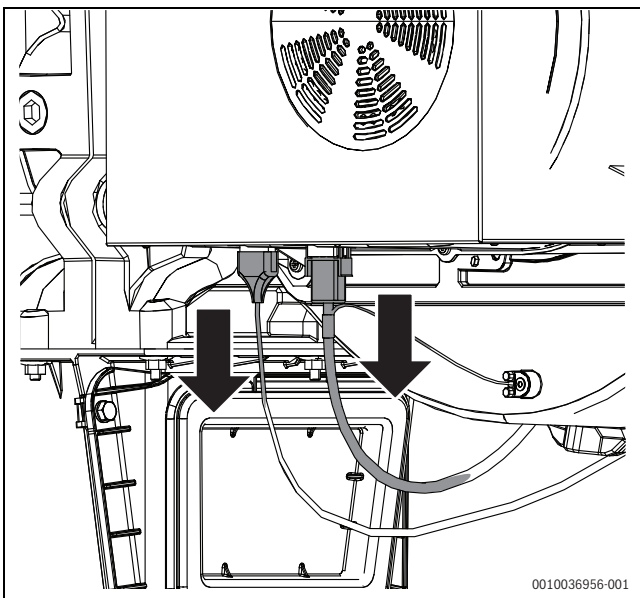

Fig. 55 Unplug the plug from the fan
- Unplug the plug on the fan (→Fig. 55).
- Unplug the plug on the fan (→Fig. 55, page 43)